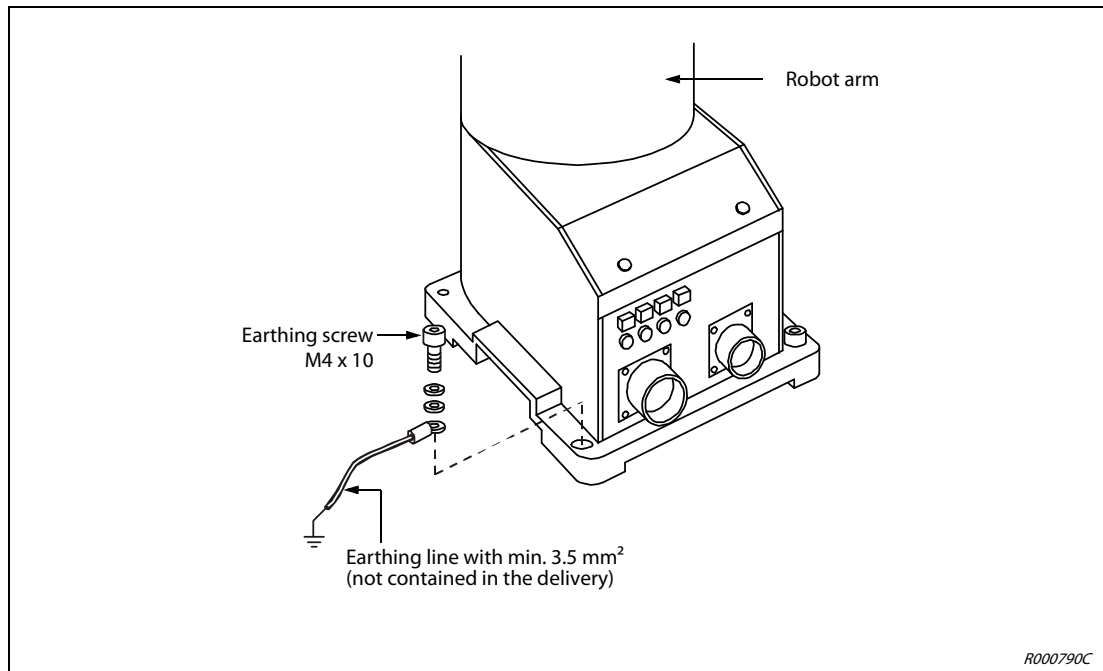
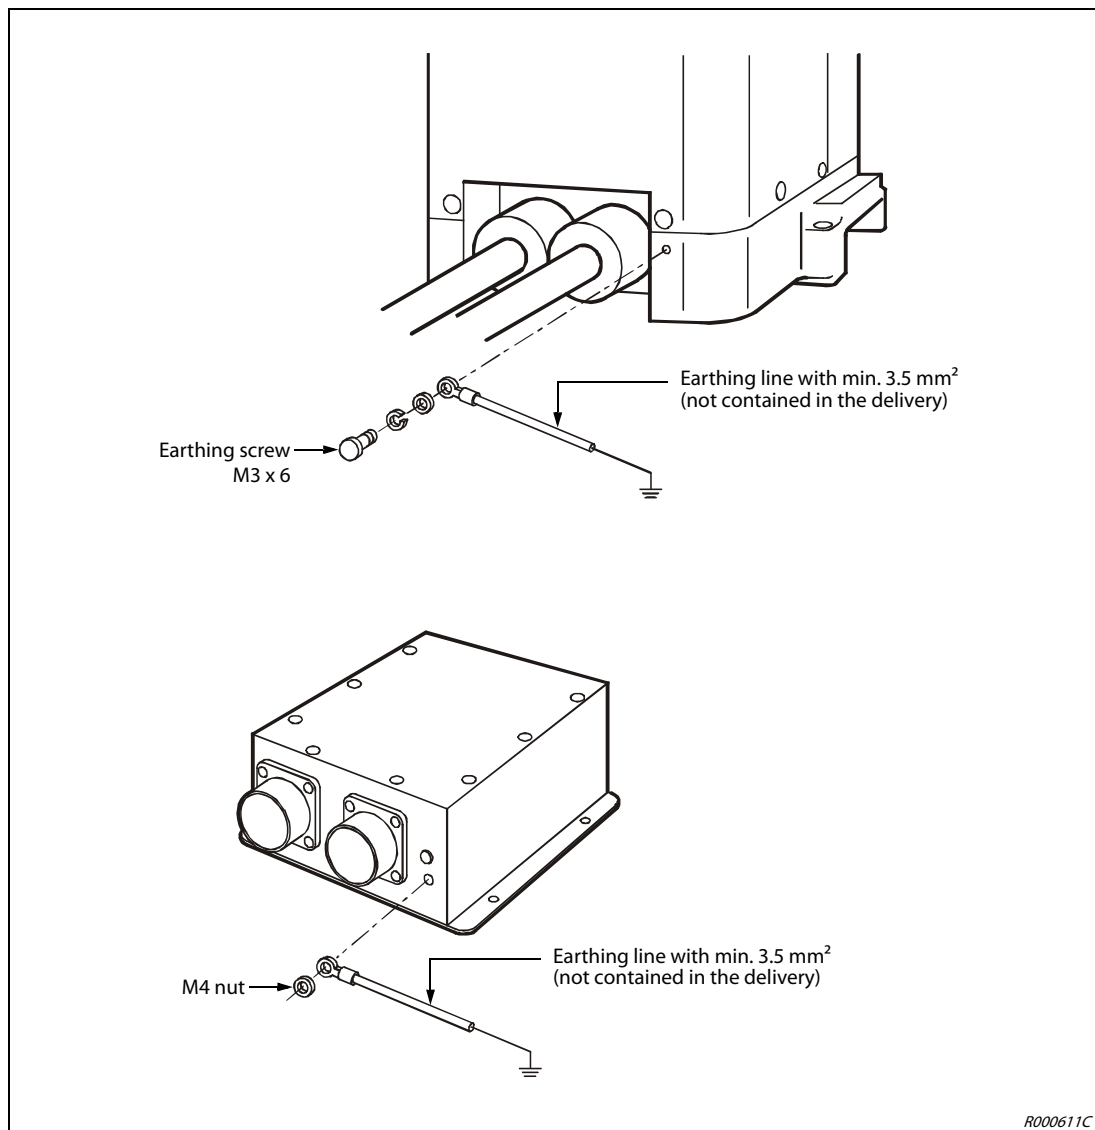

Fig. 3-10: Earthing the articulated arm robot
Fig. 3-11: Earth the SCARA robot and the connection box
- An articulated arm robot is earthed by an M4 threaded hole (see Fig. 3-10) on its surface and a SCARA robot is earthed by an M3 threaded hole on its base (see Fig. 3-11).
- The connection box on a SCARA robot is earthed by an M4 thread (see Fig. 3-11) on the housing.
- ① Use an earthing cable with a cross-section of at least 3.5 mm².
- ② Check the area around the earthing screw for deposits and remove these with a file if necessary.
- ③ Fix the earthing cable with the earthing screw (M4 x 10) to the earth-connection of the robot arm (for this, see Fig. 3-10).